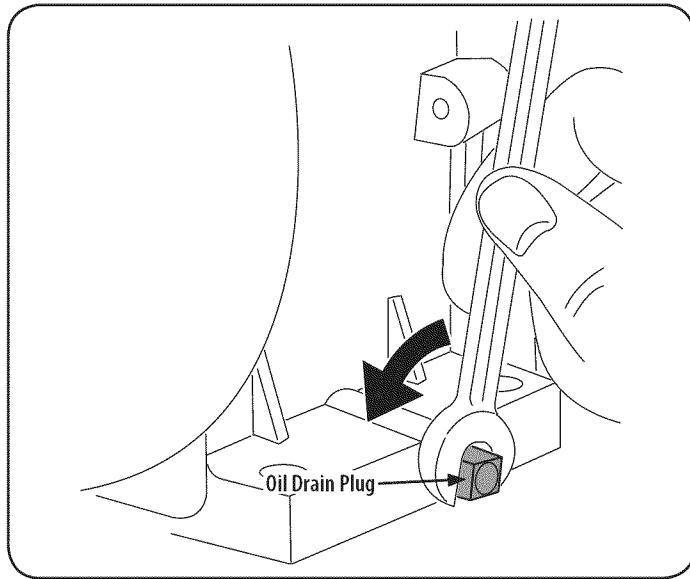

Figure 25
5. Remove the oil drain plug. See Figure 25.